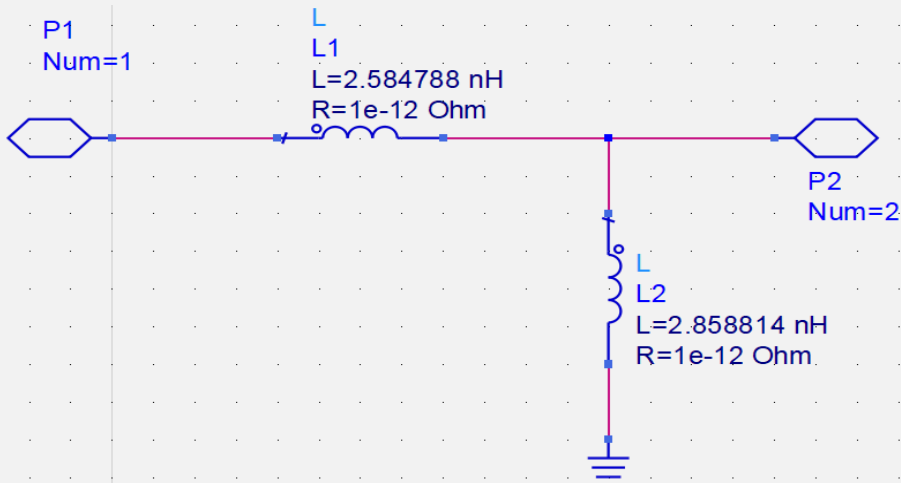

Figure 24. Matching network schematic
11. In the Z_match schematic, push into the Smith Chart symbol to see the matching network, which is shown in Figure 24. Take note of the values and the topography. These will be used in the next section.